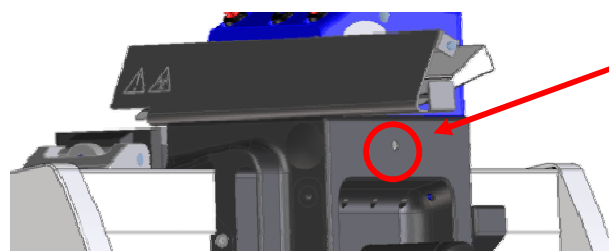

Fig. 4-3-3
- Fix the ballast with the laterally set-screw (Fig. 4-3-3)